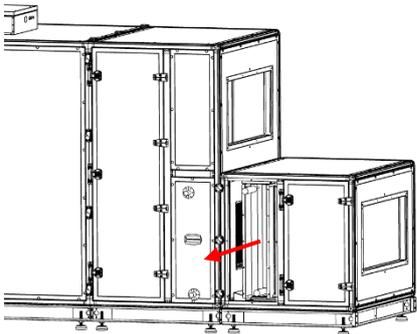

Fig. 117
3. Remove the coil carefully (Fig. 117)